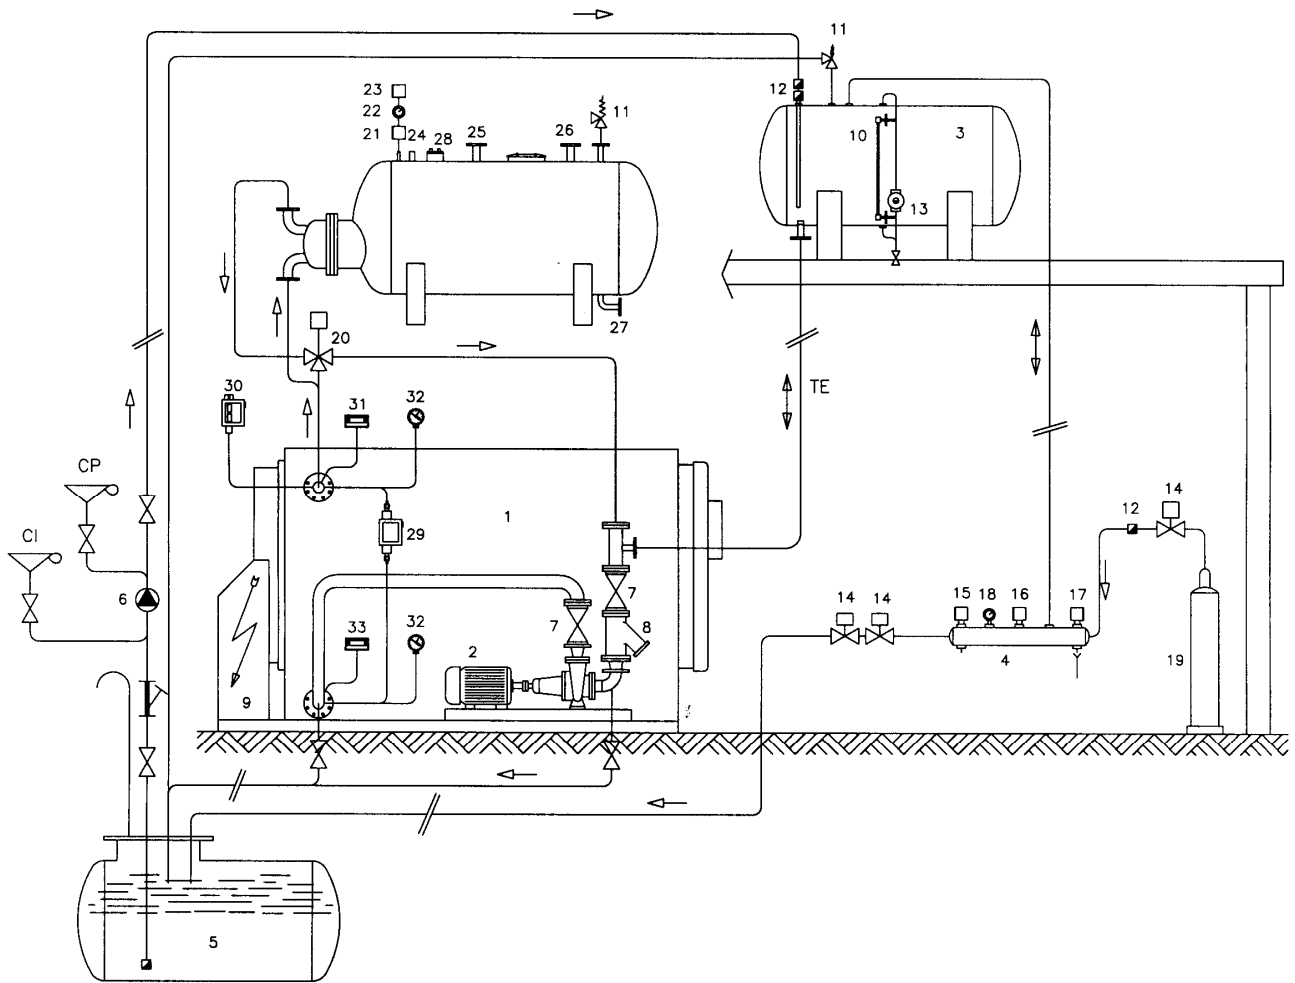

Fig. 8
5.4 DIATHERMIC OIL BOILER WITH STEAM GENERATOR (Fig. 8)